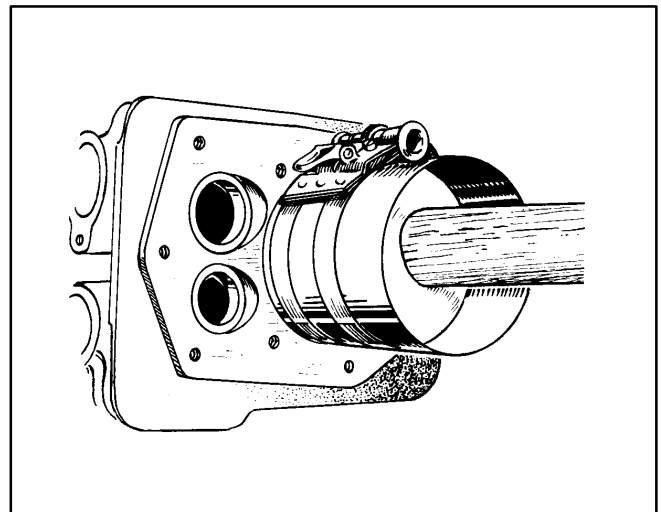

FIGURE 7-21. INSERTING PISTON
3. Lubricate the Number 1 piston assembly and cylinder with engine oil. Compress the rings with a ring compressor as shown in Figure 7-21. Install the bearing insert in the piston rod.
5. Tap the piston into the bore with the handle end of the hammer until the connecting rod is seated on the crankshaft journal (Figure 7-21). If the crankshaft has been reground and/or new rods are being installed, check the bearing clearance with Plasti-gage as instructed below under Rod Bearing Clearance.